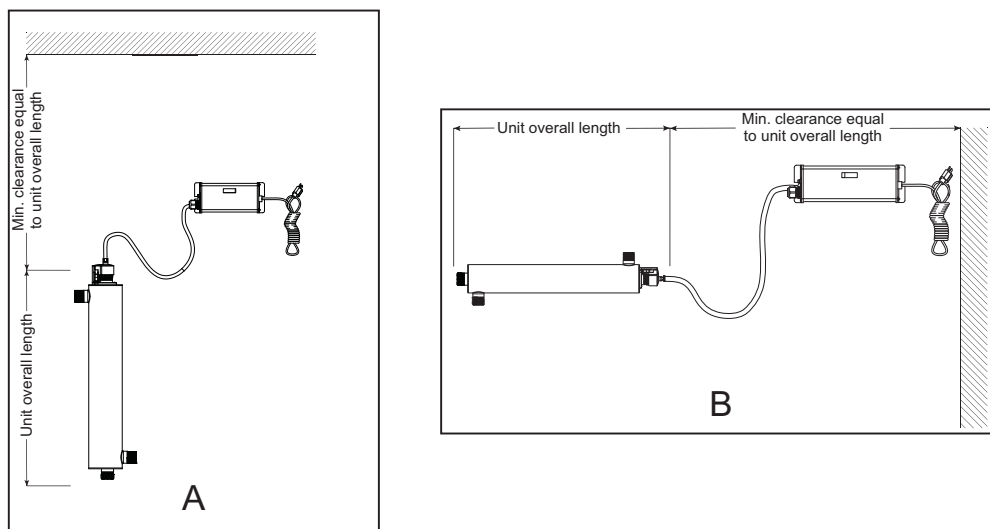

Figure 4 Disinfection Installation - Vertical and Horizontal
2. Select a suitable location for the disinfection system and its related components. As it is recommended to install a GFCI, make sure that this is taken into consideration prior to any installation. The system can either be installed vertically (inlet port at the bottom) as shown in Figure 4 A, or horizontally as shown in Figure 4 B. However, the vertical installation is the most preferred method. When selecting a mounting location, leave enough space to allow the removal of the UV lamp and/or quartz sleeve (typically leave a space equal to the size of the chamber itself).